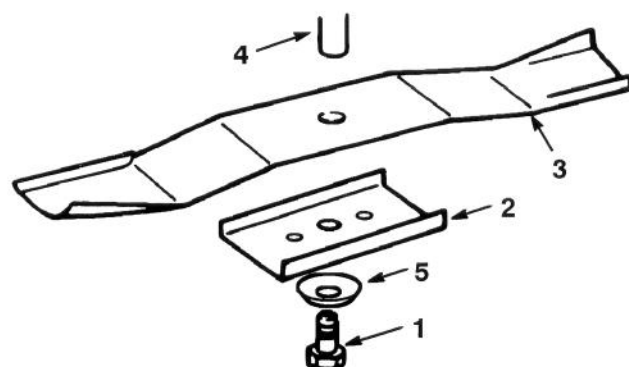

Figure 4
2. Install Recycler blades, blade retainer, curved washer (cupped side toward blade), and the blade bolt (Fig. 4).